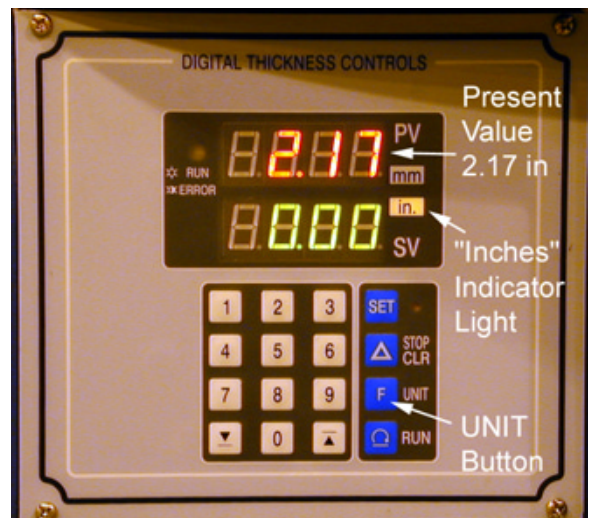

Figure 14
3. Now press the UNIT button once. The present value should read 2.17, and the “Inches” indicator light should be illuminated, as shown in **Figure 14**.